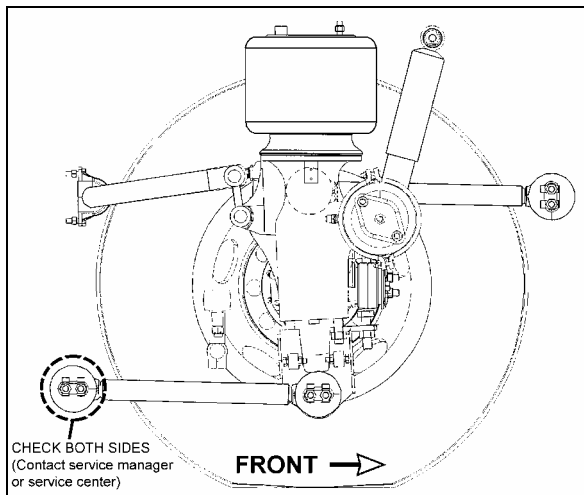

FIGURE 2 : XL2 VEHICLES FRONT SUSPENSION
3. If a defective support pin is detected, it must be replaced (Refer to figures 2, 3 and 4).